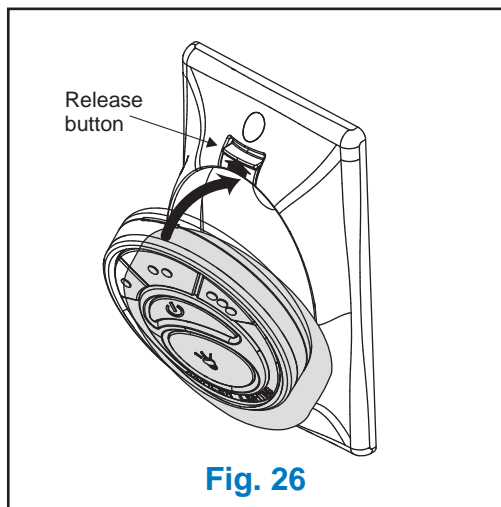

Fig. 26
1. Insert the transmitter into the wall plate by inserting the bottom of the transmitter first and then press the top of the transmitter into the pocket. The transmitter will fully function from this location or you can remove the transmitter and use as a "Hand Held" device. (Fig. 26)